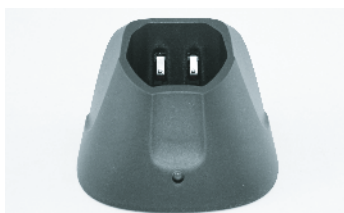

Fig. 12
3. Place the clipper, with the battery inserted, in the charging station so that the upper part of the clipper is facing towards you and the contacts on the clipper are resting against the contacts of the charging station. The part with the switch is the upper part of the clipper (Fig. 12).